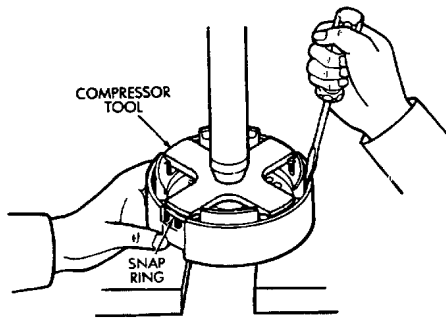

Fig. 5 Removing/Installing Piston Snap Ring
(2) Lubricate and install new O-rings on brake piston. Then carefully seat piston in support.
(3) Install return springs on brake piston.
(4) Compress return springs with tool (Fig. 5) and install piston snap ring.